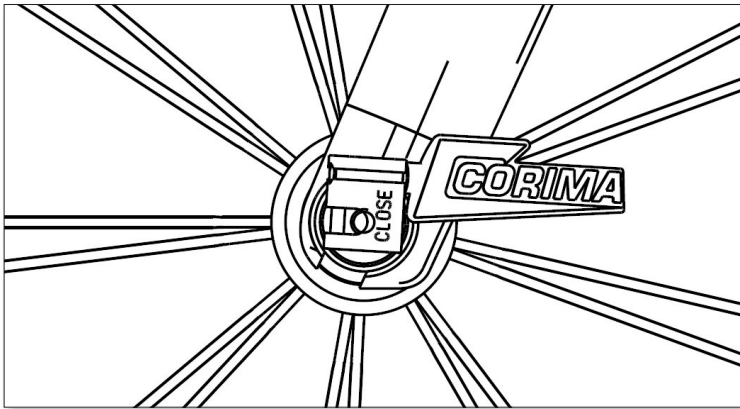

Figure 1
- Lock the wheels with the quick release skewers as indicated above (**Figures 1 and 2**).
- Push the lever to the closed position and check that the wheel is blocked. The word «closed» should be visible (**Figure 1 or 2**).
- When you close the quick release skewer's lever, position it as shown in Figures 1 and 2 so that it is easily accessible to open it.